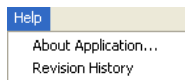

Figure 2-19 Menu bar - Help
- **Help:** It is used to display the information about the software and revision history, as shown in figure 2-19.